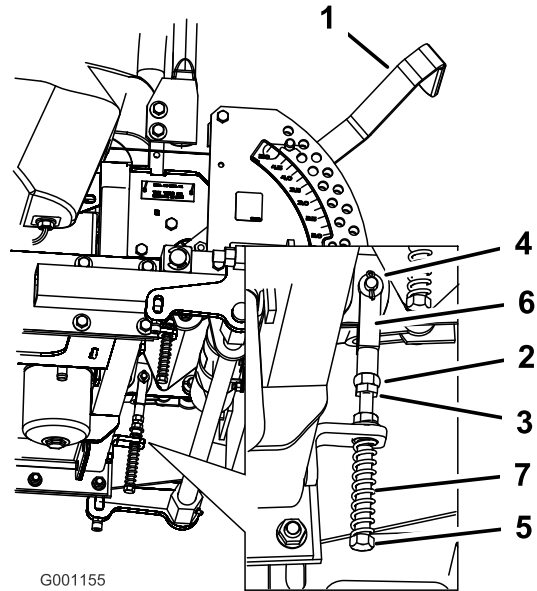

**Figure 70**
5. Move the lever to the neutral position but not locked (Figure 70).
6. Pull the lever back until the clevis pin (on arm below pivot shaft) contacts the end of the slot (just beginning to put pressure on the spring) (Figure 70).
7. Check where the control lever is relative to notch in console (Figure 70). It should be centered allowing lever to pivot outward to the neutral-lock position.